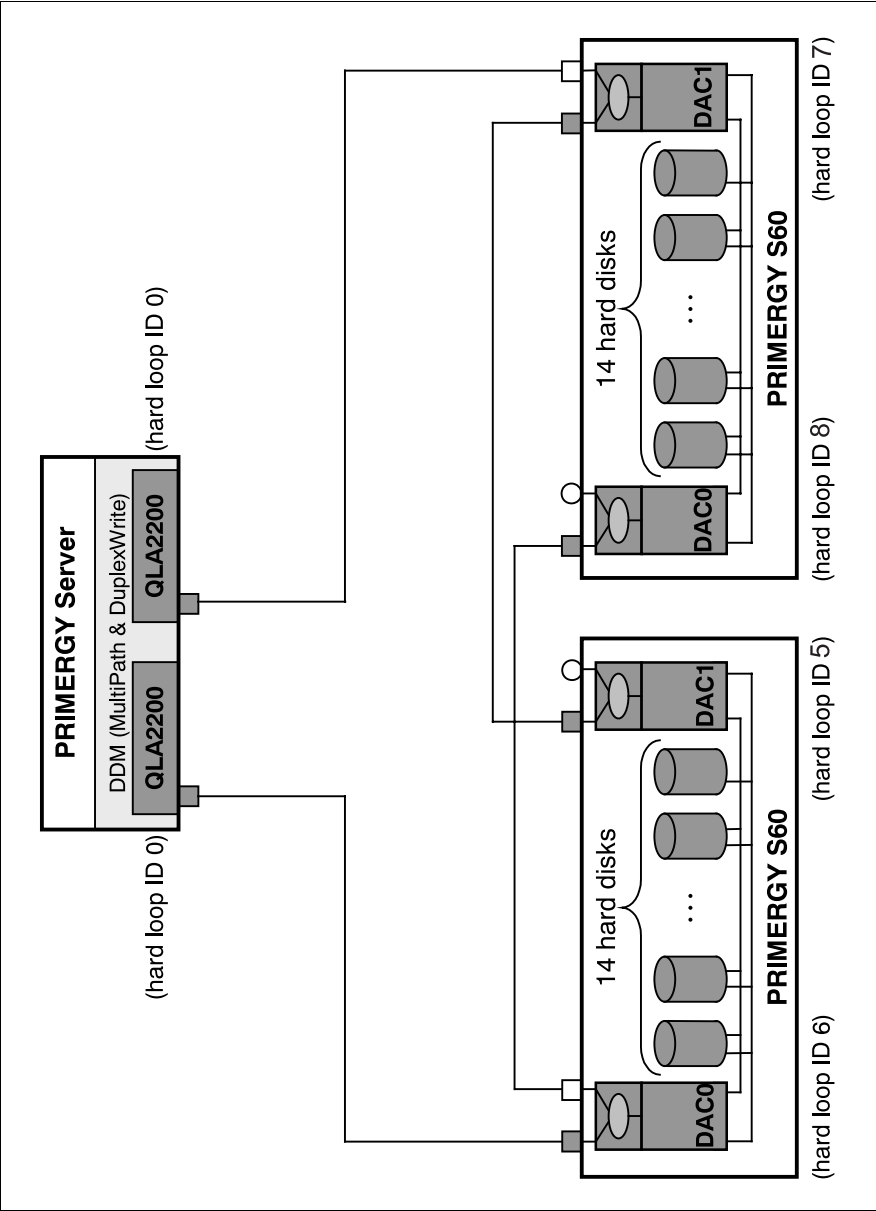

Figure 19: MultiPath and DuplexWrite
- Loop IDs (see figure 19 on page 27)